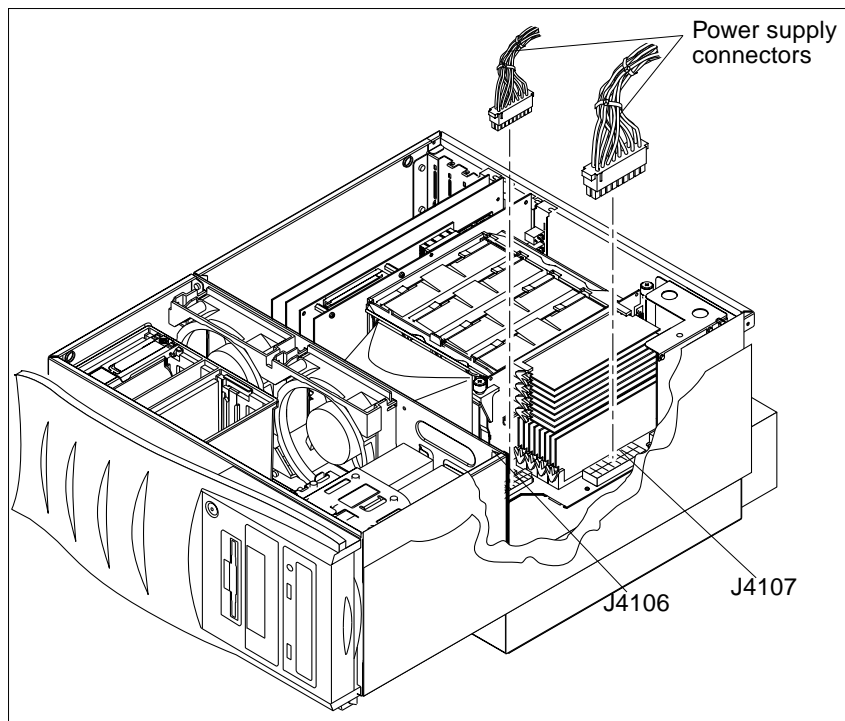
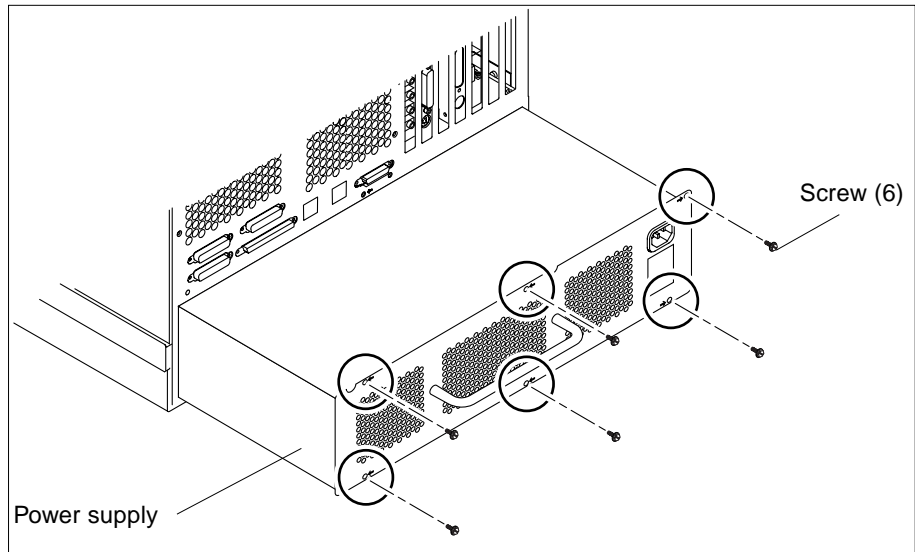

FIGURE 7-1 Removing and Replacing the Power Supply Assembly (Sheet 1 of 2)
FIGURE 7-2 Removing and Replacing the Power Supply Assembly (Sheet 2 of 2)
**4. Remove the power supply assembly as follows (FIGURE 7-1 and FIGURE 7-2):**
1. **Replace the power supply assembly as follows (FIGURE 7-1 and FIGURE 7-2):**